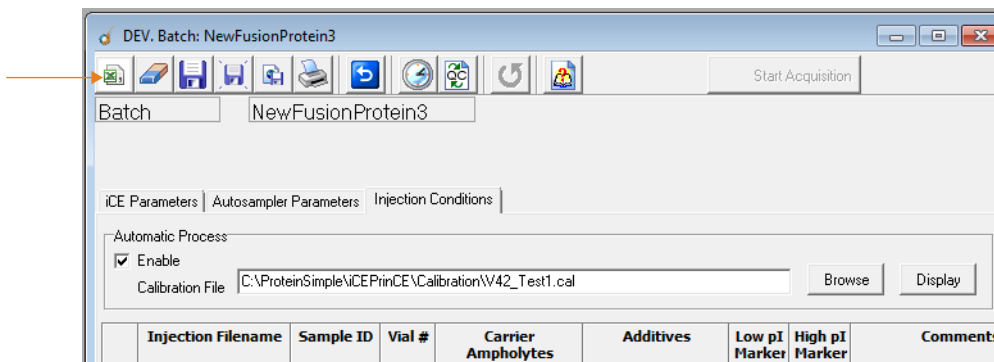

Figure 5-25: Filling table with CSV button.
- a. **Click the CSV button in Development Mode** - This fills the cells with the same information in the selected .csv template. (Figure 5-25).